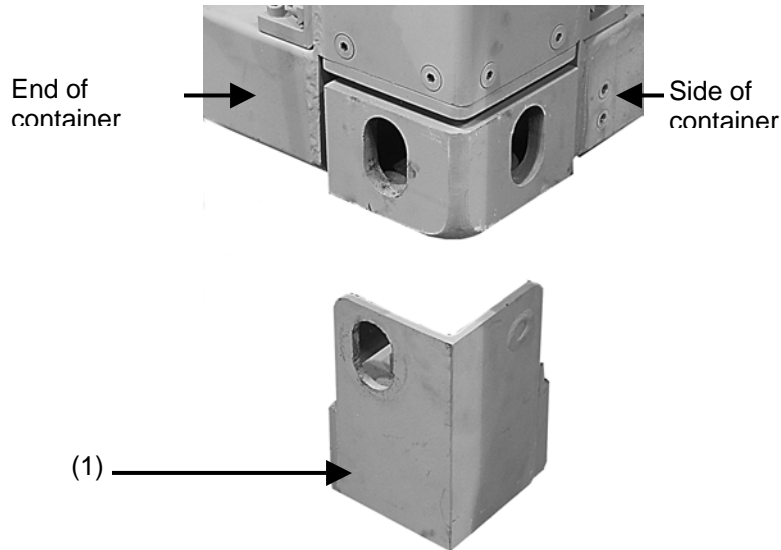

Figure 4-66. ISO extension block aligned with corner of container.
6. Attach an ISO extension block (1) to each of four corners of container by following steps seven through ten below (Fig. 4-66).